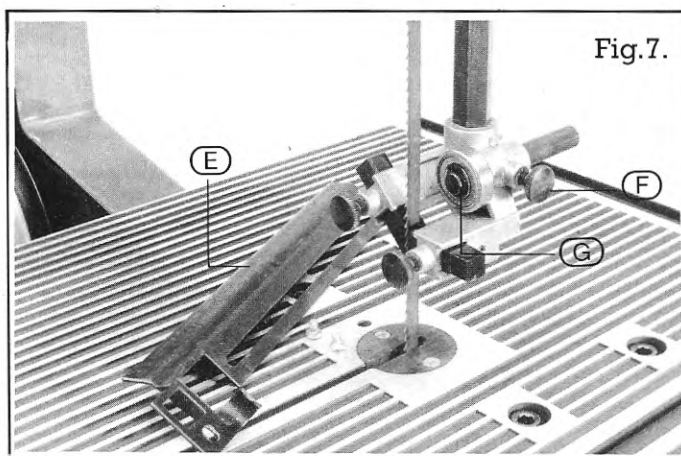

Fig.7.
3. Remove the upper blade guard (E) loosen locking screw (F) and adjust the upper support bearing (G) away from the blade (Fig. 7).